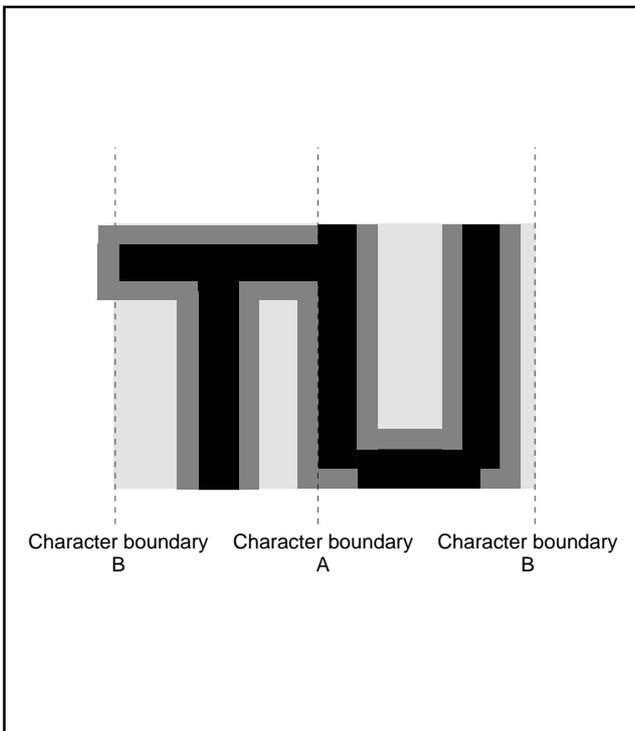

Fig. 76. Border priority
**3 :** When the border dot overlaps on the next character font, the character font has priority (refer to Figure 76 A). When the border dot overlaps on the next character background, the border has priority (refer to Figure 76 B).